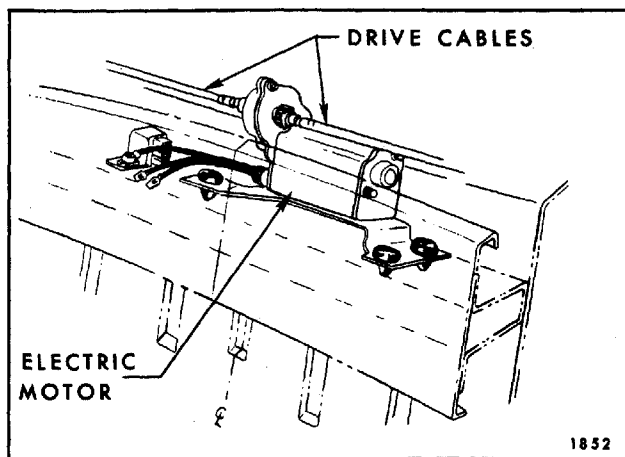

Fig. 6-74—Folding Top Electric Motor and Cables
- b. Disconnect both drive cables from motor assembly (Fig. 6-74).
2. Disconnect both drive cables from motor assembly (Fig. 6-74).